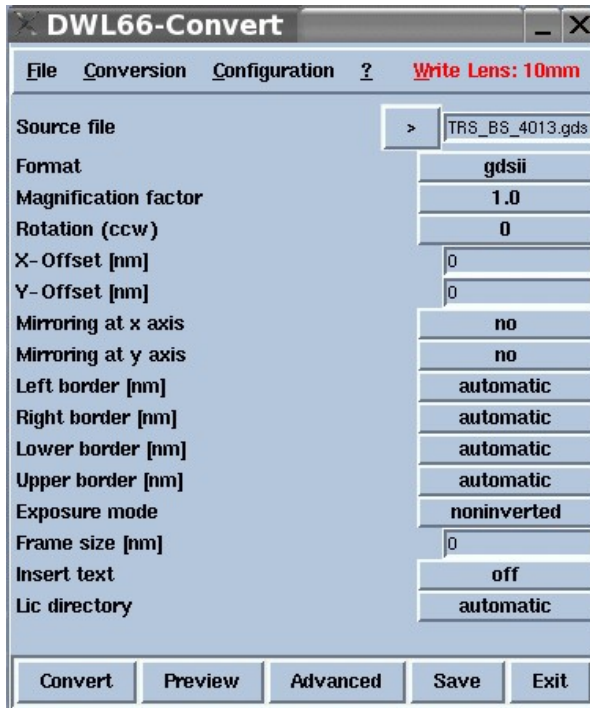

Figure 2-20: Convert Standard Menu
- **Convert PC:** Setup the Standard Menu (See Figure 2-20)